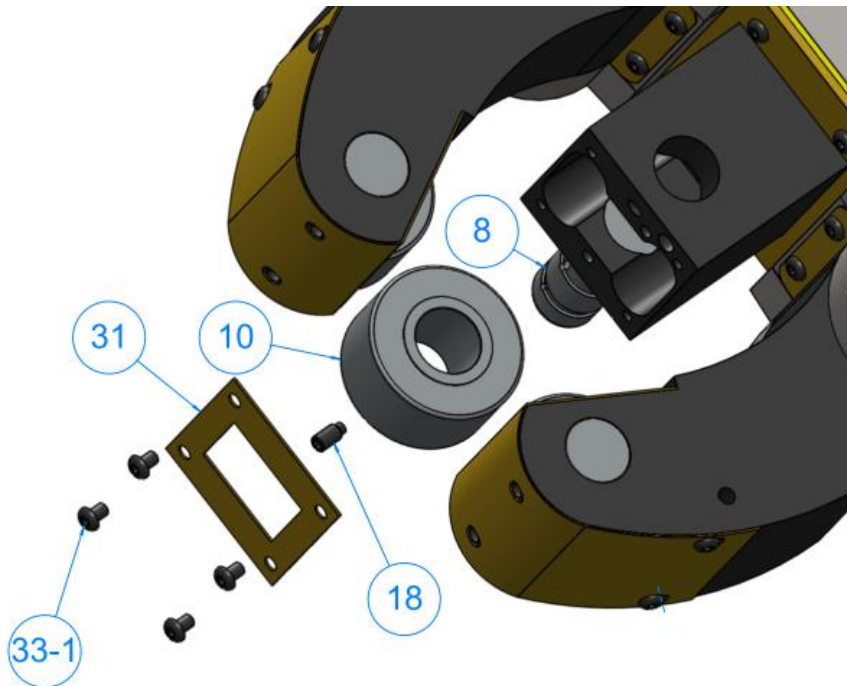

Figure 8. Shows dismounting sketch for middle piece roller.
- Apply hydraulic or pneumatic to the cylinder connection (no 3) for opening and connection (no 4) for closing, both threads G3/8". **Note:** do not use higher pressure than workpiece can take, and do not exceed recommended maximum pressure (see Figure 8).
- Activate the cylinder with selected working pressure (see Figure 8), make the steady rest open and close so that the rollers clamp the shaft. **Note:** the steady rest must not be tightened to the bracket at this time.
Dismounting is done in order as per Figure 8.